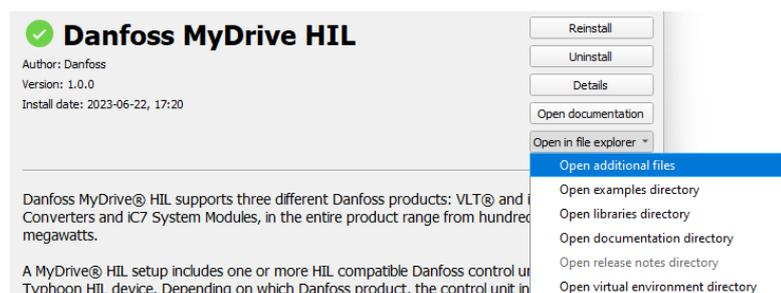

Figure 5: Directories found in Package Manager.
- 1) Right click on *lcp\_sim.exe* (placed in the *additional\_files/lcp\_sim* folder which can be loaded via Typhoon Hil's Package Manager, see Figure 5),
The Danfoss libraries comes with a predefined set of data files for iC7 and VLT® Frequency Converters and motors. Since there can be a need to generate user defined data files, a folder named *schemas* is placed in the additional files folder, see Figure 5. The folder contains schemas for the different data files. An *examples* folder is placed inside the schemas folder. This folder holds example files for the different file types.